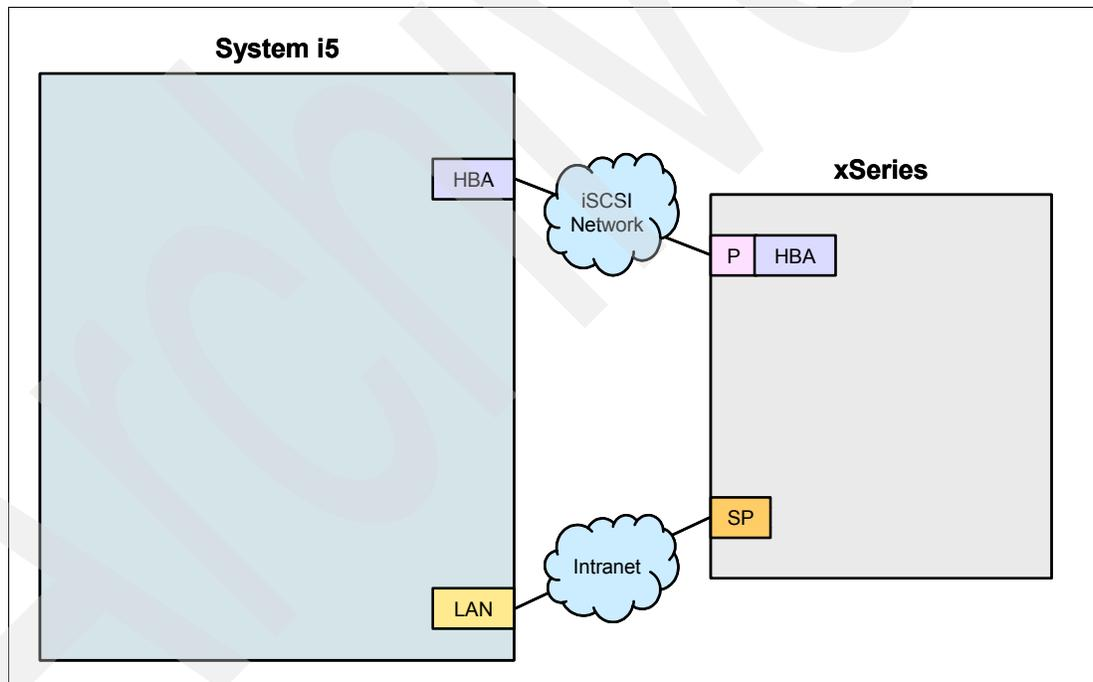
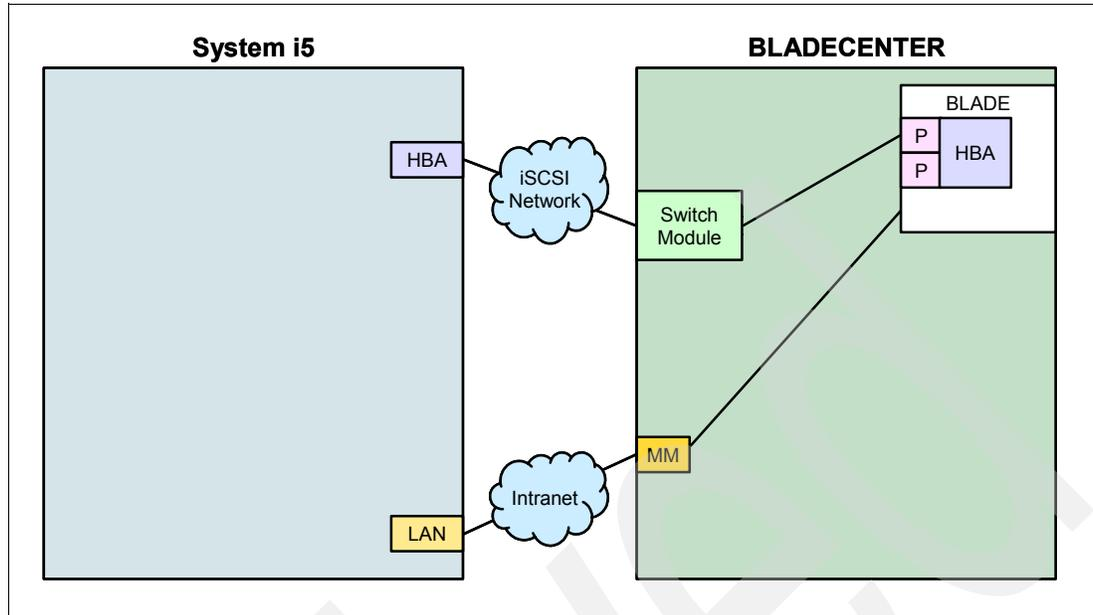
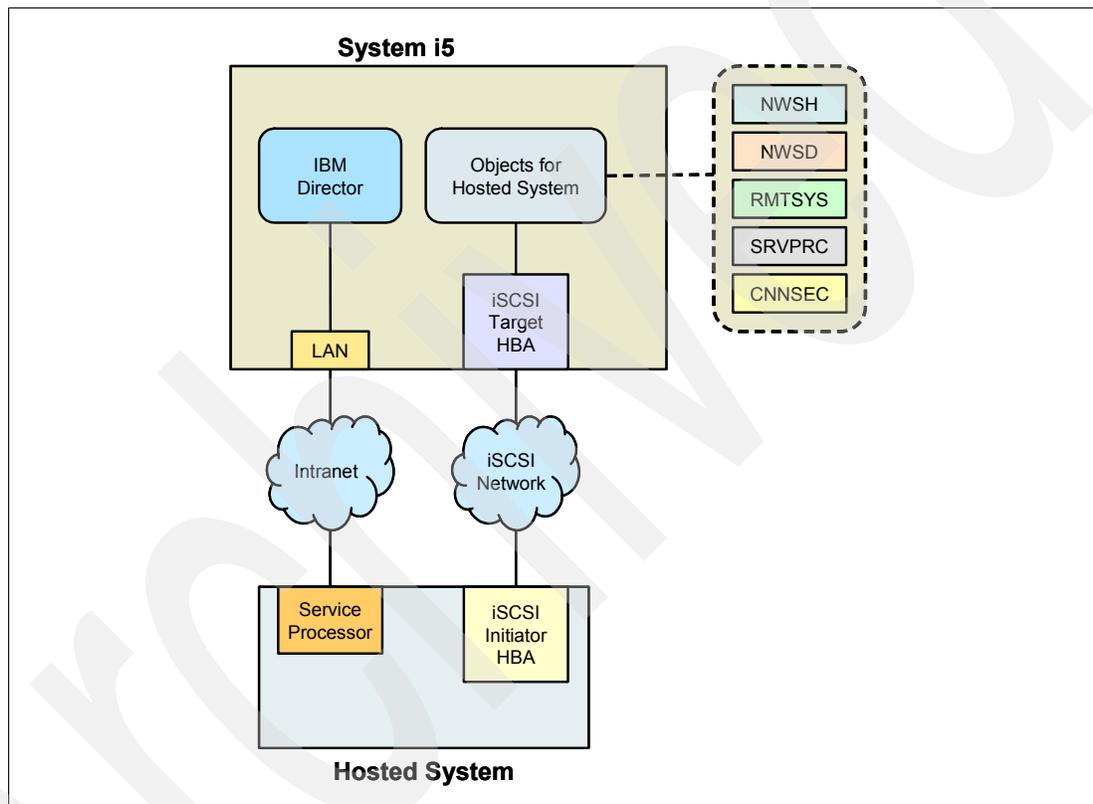
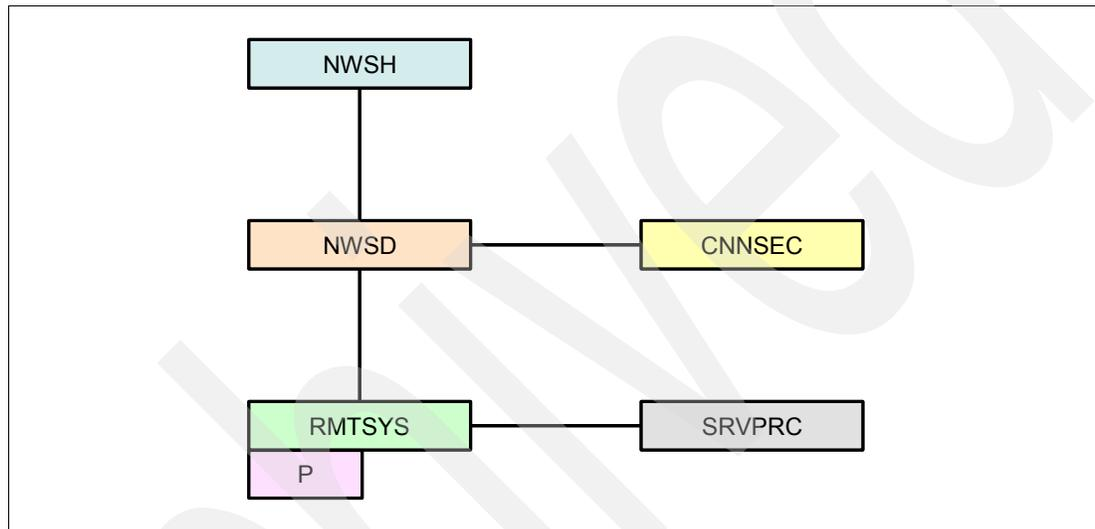

Figure 2-8 Basic iSCSI configuration: xSeries
Figure 2-9 Basic iSCSI configuration: Blade server
Figure 2-10 Objects for a single hosted server
Figure 2-11 Object relationships for a single hosted server - 1
An example of a basic iSCSI connection between an i5/OS partition and a hosted xSeries server is shown in Figure 2-8.
Figure 2-8 shows a connection between a single target HBA in the i5/OS hosting partition and a single initiator HBA port in an xSeries server across an iSCSI network.
The equivalent of Figure 2-8 for a Blade server is shown in Figure 2-9 on page 18.
Note that in Figure 2-9, only one initiator HBA port is active because there is only one switch module installed in either bay 3 or 4. Therefore, the second initiator HBA port is not available.
It also shows a connection between an Ethernet LAN adapter in the i5/OS hosting partition and the service processor in an xSeries server. Note that the target HBA and LAN adapter shown in Figure 2-8 on page 17 must be in the same i5/OS partition.
Two distinct networks are illustrated in Figure 2-8 on page 17 and Figure 2-9.
In Figure 2-10, we see the i5/OS objects that you need to configure in order to install the basic iSCSI configurations shown in Figure 2-8 on page 17 and Figure 2-9 on page 18.
Figure 2-10 shows that there are five different i5/OS objects that describe a basic iSCSI connection between an i5/OS hosting partition and a hosted xSeries or Blade server. They are:
The relationship between the objects for the basic iSCSI configuration shown in Figure 2-10 on page 19 can be represented by Figure 2-11.
Figure 2-11 is a very important diagram, because it demonstrates the fundamental relationships between the objects that make up a hosted server connected to an i5/OS partition over an iSCSI network. We use variations of this diagram to describe the more complex configurations covered in Chapter 9, “Scaling your iSCSI network” on page 325.
You should memorize Figure 2-11.
Note the following important points shown in Figure 2-11:
- ▶ The “P” attached to the RMTSYS object in Figure 2-11 represents the iSCSI boot port on an initiator HBA. The boot port is not a separate object; it is specified in the RMTSYS object. However, we show the boot port, because it is important when we begin to describe the various ways you can scale the System i5 iSCSI network.
The network server description (NWSD) object is basically the same as described for Figure 2-11 on page 20, except for the following:
The network server host adapter (NWSH) device description object shown in Figure 2-11 on page 20 represents the iSCSI host bus adapter (HBA) that is used by the iSeries side of the iSCSI connection:
A remote system network server configuration (NWSCFG type RMTSYS) object (shown in Figure 2-11 on page 20) represents the iSCSI attached xSeries or IBM BladeCenter server:
A service processor network server configuration (NWSCFG type SRVPRC) object (shown in Figure 2-11 on page 20) represents the xSeries service processor or the IBM BladeCenter management module: